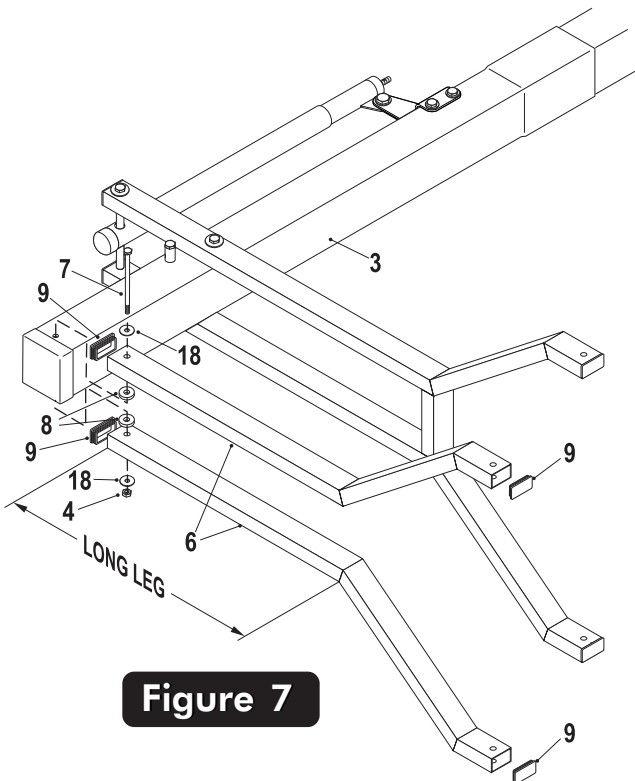

Figure 7
- Attach long leg of Upper Arms (#6) to Top Pole (#3), as shown in Figure 7, using a bolt (#7), two flat washers (#18), two spacers (#8) and one lock nut (#4).
- Insert four Tube Plugs (#9) into open ends of Upper Arms (#6). It may be necessary to use a rubber mallet to tap plug in. See Figure 7. **Note:** Tube plugs may be pre-installed by the factory.